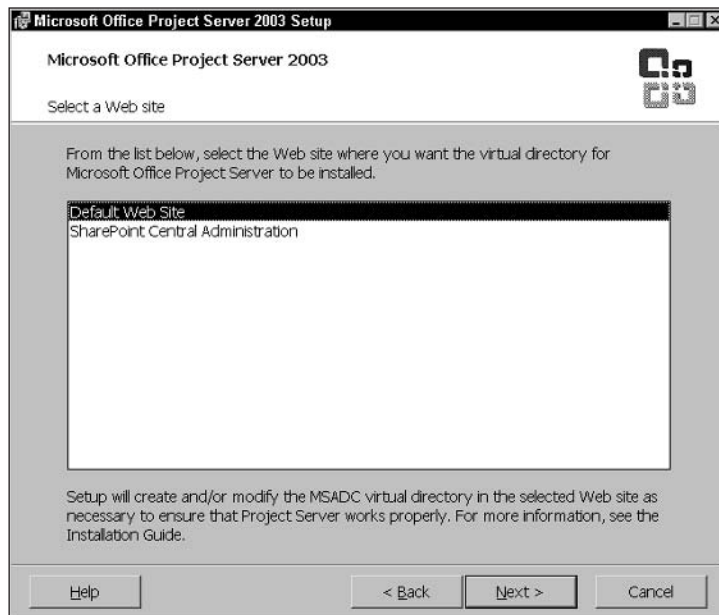

Figure 18-29: Choose the Web site where you want to install the virtual directory for Project Server.
12. On the Select a Web site page (see Figure 18-29), choose a Web site and click Next.